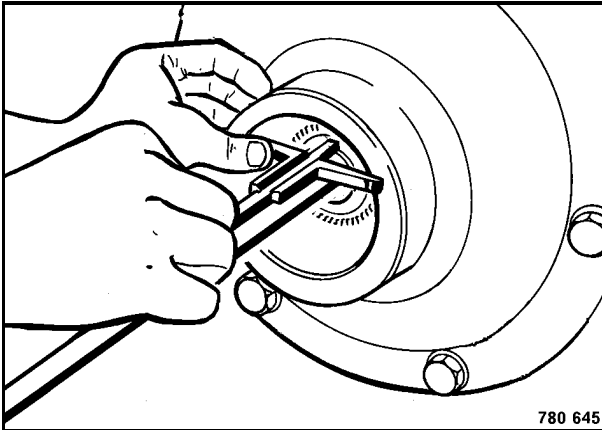

Fig. 11
16. Measure the distance between coupling and front face of bearing housing (Fig. 11).